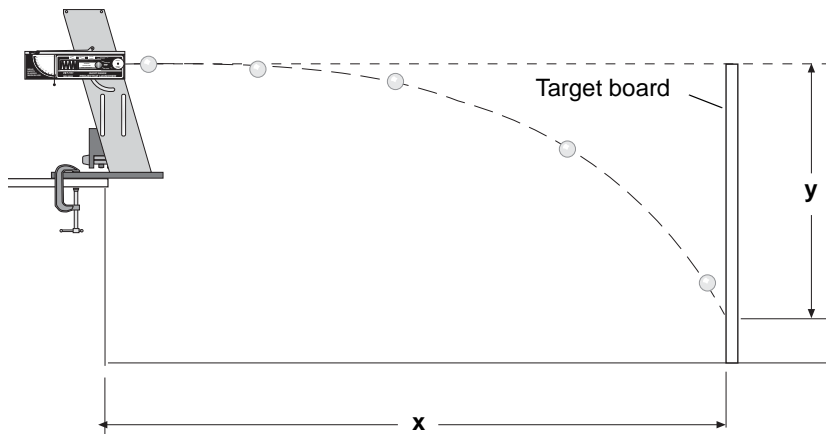

Figure 4.1: Launcher setup
3. Fire a test shot on medium range to determine the initial position of the vertical target board. Place the target board on the floor so that the ball hits the board near the bottom. See Figure 4.1